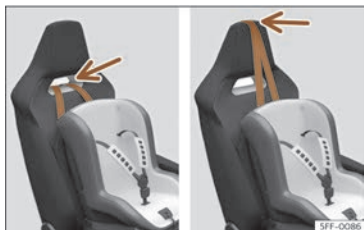
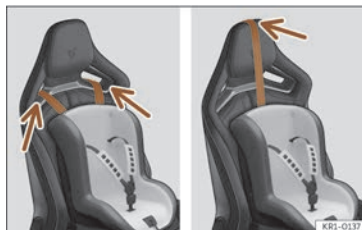

Fig. 44 Front passenger seat: adjustment and assembly according to the Top Tether belt.
Fig. 45 Front passenger seat: adjustment and assembly according to the Top Tether belt.
- Position the belt under the headrest (according to the instructions of the seat itself, lift or remove the headrest if necessary) >>> **Fig. 44**.
For vehicles with integrated headrests, pass the Top Tether belt over the headrest or through the headrest recess as shown in the image >>> **Fig. 44**, >>> **Fig. 45**.